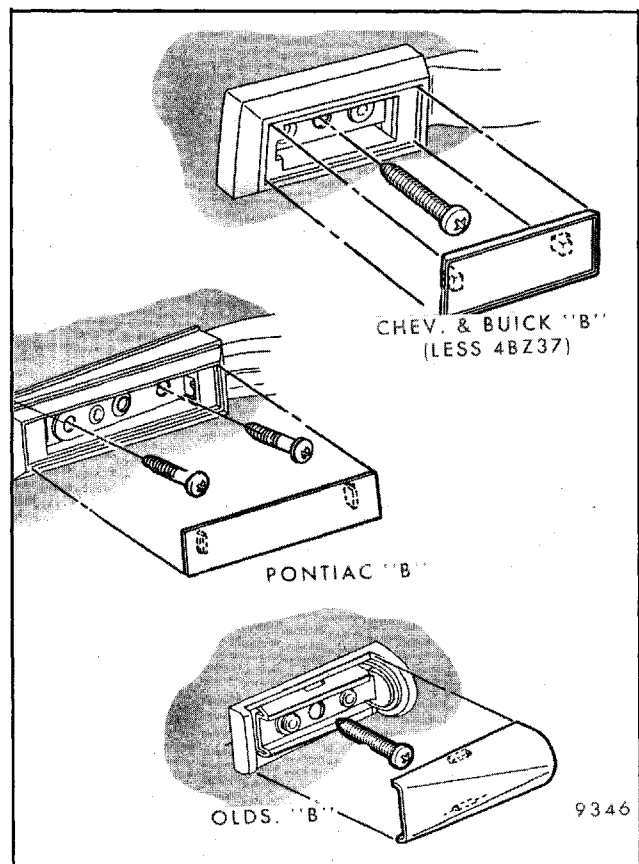

Fig. 5-1-Typical Door Pull Handle Attachment - "B" Body Styles
Door inside pull handles are secured to the trim pad with rivets, screws or stud nuts on the outboard (reverse) side of the trim assembly prior to trim installation. In addition, on some styles, the handles are secured to the door inner panel with screws installed from the inboard side after trim installation. With this method of installation, the pull handle and trim pad are removed from the door as an assembly (Figs. 5-1 through 5-6).
3. On styles equipped with door pull handles, remove screws inserted through handle into door inner panel. (For location of screws, refer to Figs. 5-1, 5-2, 5-3, 5-4, 5-5 and 5-6.)